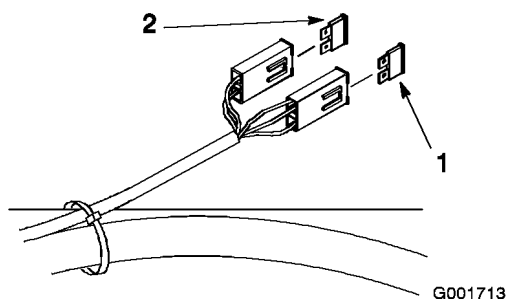

Figure 45
1. Unlatch the seat and raise the seat to gain access to fuse holder (Figure 45).
3. Install a new fuse (Figure 45).